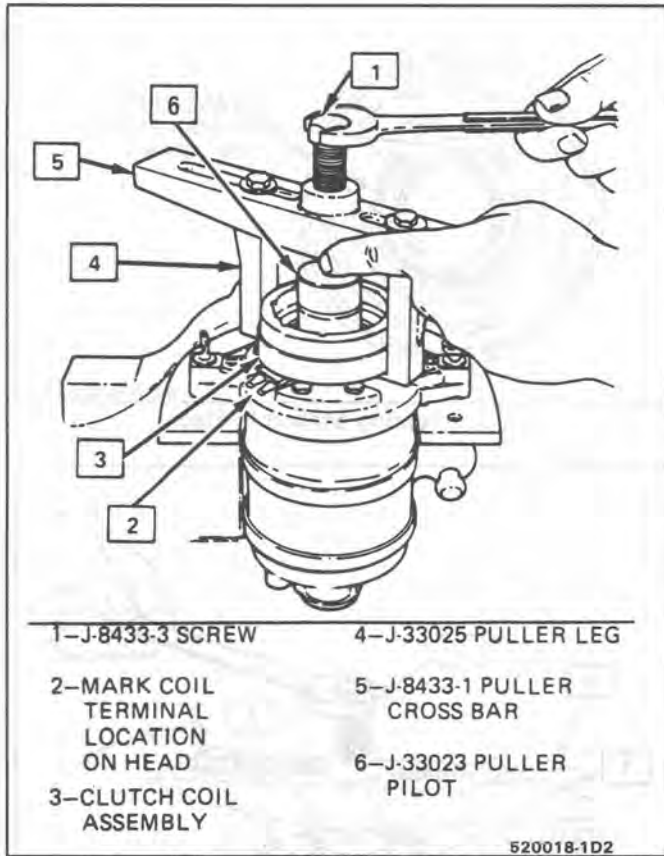

Fig. 18 Clutch Coil Assembly Removal
2. Install J-33023-A puller pilot on front head of compressor (Fig. 18). Also install J-8433-1 puller crossbar with J-33025 puller legs as shown in Fig. 18.